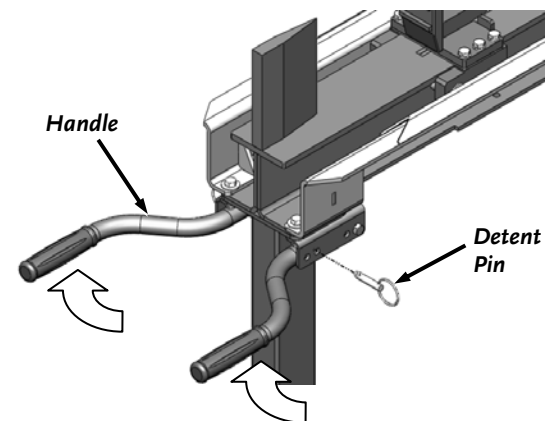

Figure 5
7. Rotate the Handles up and lock them into position with the Detent Pins from the Product Package (**Figure 5**).